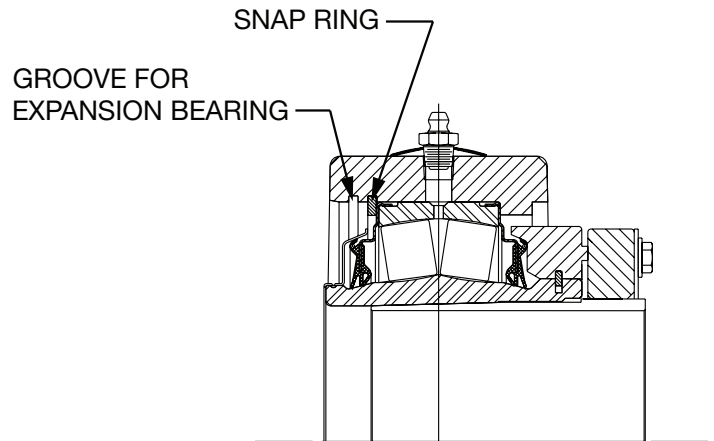

Figure 6 - Conversion from non-expansion to expansion
1. Move snap ring opposite locknut side, to the outer snap ring groove. See Figure 6.